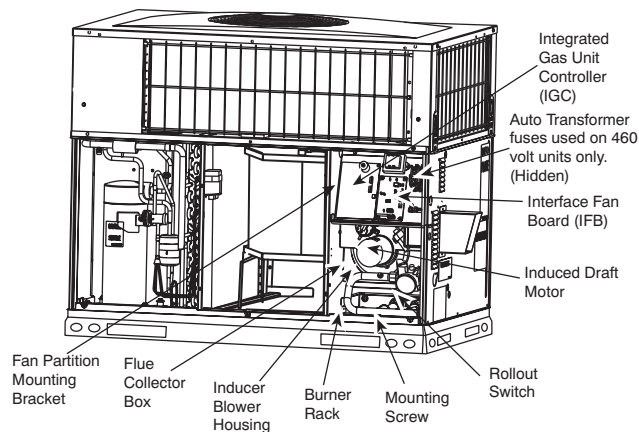

Fig. 33 – Blower Housing and Flue Collector Box
2. Remove the 11 screws holding the flue collector box cover (See Fig. 33) to the heat exchanger assembly. Inspect the heat exchangers.
Unit is equipped with a direct spark ignition 100 percent lockout system. Ignition module (IGC) is located in the control box (See Fig. 33). Module contains a self-diagnostic LED. During servicing, refer to label diagram or Table 14 in these instructions for LED interpretation.
5. Remove fan partition mounting bracket (2 screws located on the left side of control compartment on the fan partition panel). Slide bracket forward, bottom first, to remove. (See Fig. 33.)
7. Remove the mounting screw that attaches the burner rack to the unit base (See Fig. 33).
8. Partially slide the burner rack out of the unit (see Fig. 33 and Fig. 36). Remove ignitor and sensor wires at the burner assembly. Remove wires to rollout switch.
9. Slide the burner rack out of the unit (See Fig. 33 and Fig. 36).